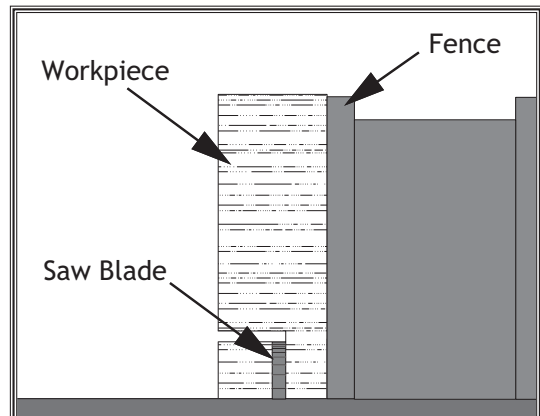

Figure 85. Second cut to create a rabbet.
8. Stand the workpiece on edge as shown in **Figure 85**.